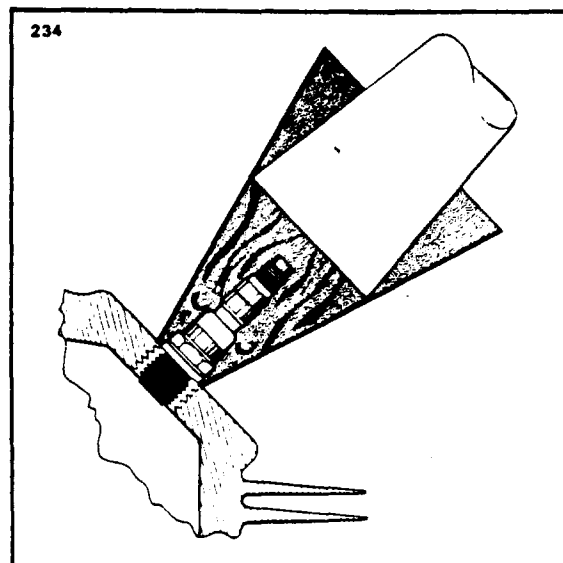

Figure 8-20. Removing Spark Plug Frozen to Bushing
d. Removal of seized spark plugs in the cylinder may be accomplished by application of liquid carbon dioxide by a Conical metal funnel adapter with a hole at the apex just large enough to accommodate the funnel of a CO₂ bottle. (Refer to Figure 8-20.) When a seized spark plug cannot be removed by normal means, the funnel adapter is placed over and around the spark plug. Place the funnel of the CO₂ bottle inside the funnel adapter and release the carbon dioxide to chill and contract the spark plug. Break the spark plug loose with a wrench. A warm cylinder head at the time the carbon dioxide is applied will aid in the removal of an excessively seized plug.